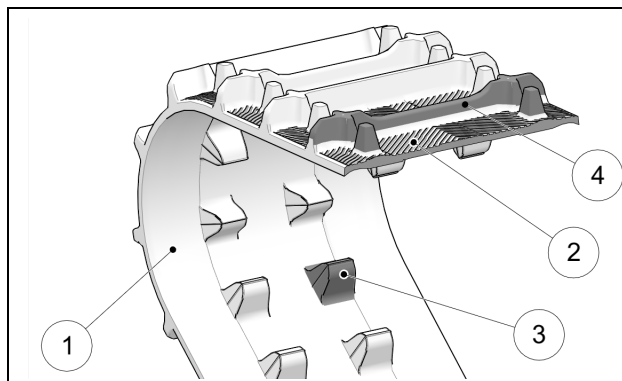

Figure 38
Wear of external profile impacts track performance directly. Important wear on profiles means less traction. Replace track if you notice a significant loss of performance. Verify internal (1) and external (2) rolling path, driving lugs (3), and profiles (4). Presence of tears, perforations or delamination in these places can render the Track system inoperable. Replace track to prevent failure risks. See Figure 38.